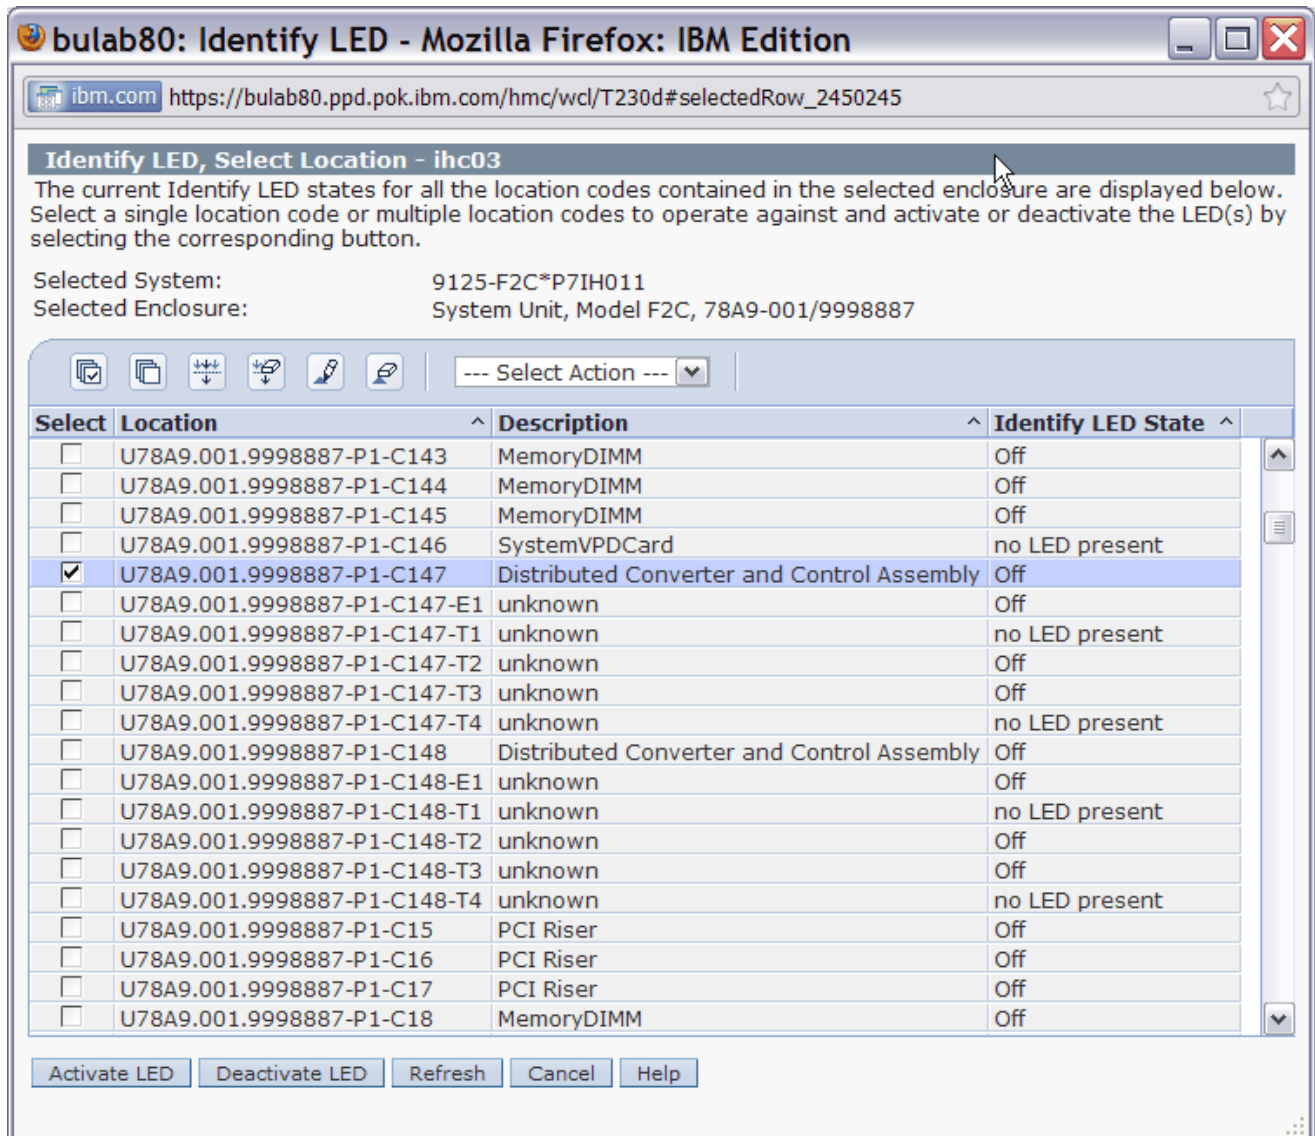

Figure 5 DCCA Identify LED Selection
STEP 6 To flash the CEC Drawer DCCA Identify LED and UEPO switch: In the window **Identify LED, Select Location**, place a checkmark in the Select column for the DCCA Location Code requiring power cable service and then *click* the **Activate LED** button. Figure 5 shows the example of flashing the DCCA Identify LED in **U78A9.001.[Serial#]-P1-C147** : this is the top DCCA in the CEC Drawer. To select lower DCCA of the CEC Drawer you would select **U78A9.001.[Serial#]-P1-C148**. Skip to STEP 8.